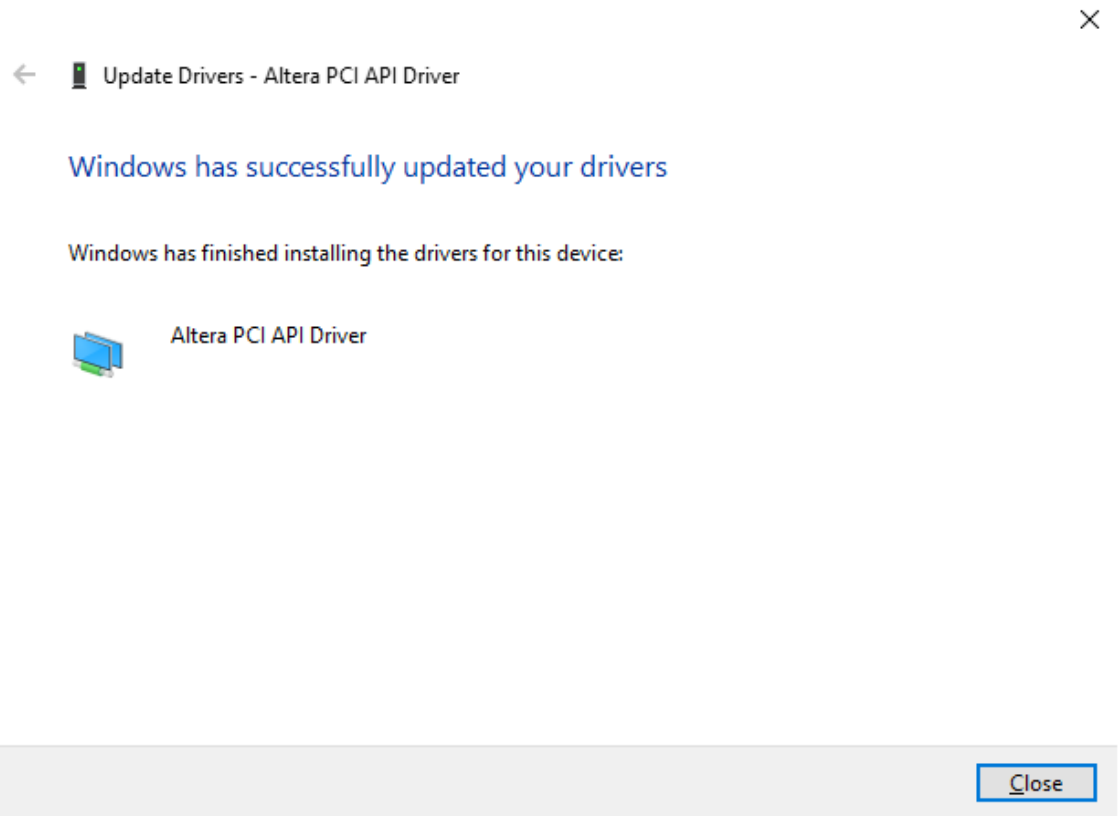

Figure 7-7 Click Close when the installation of the Altera PCI API Driver is complete
9. When the driver is installed successfully, the successfully dialog will appear, as shown in **Figure 7-7**. Click the **Close** button.